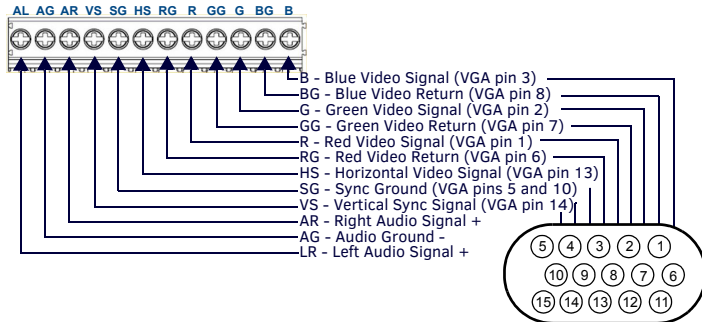

FIG. 5 HPX-AV100-RGB+A RGB AV MODULE - WIRING SCHEMATIC
3. Secure each connection using the terminal screw, according to the schematic provided in FIG. 5: